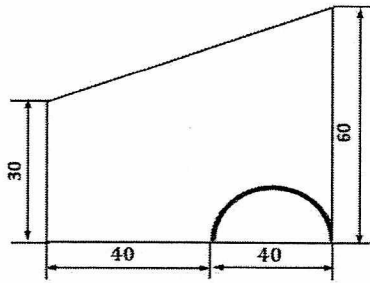

Figure 2.
- Q-4. (a) A semicircular area is removed from a trapezium, as shown in **Figure 2** (dimensions in mm). Determine the centroid of the remaining area. [4]